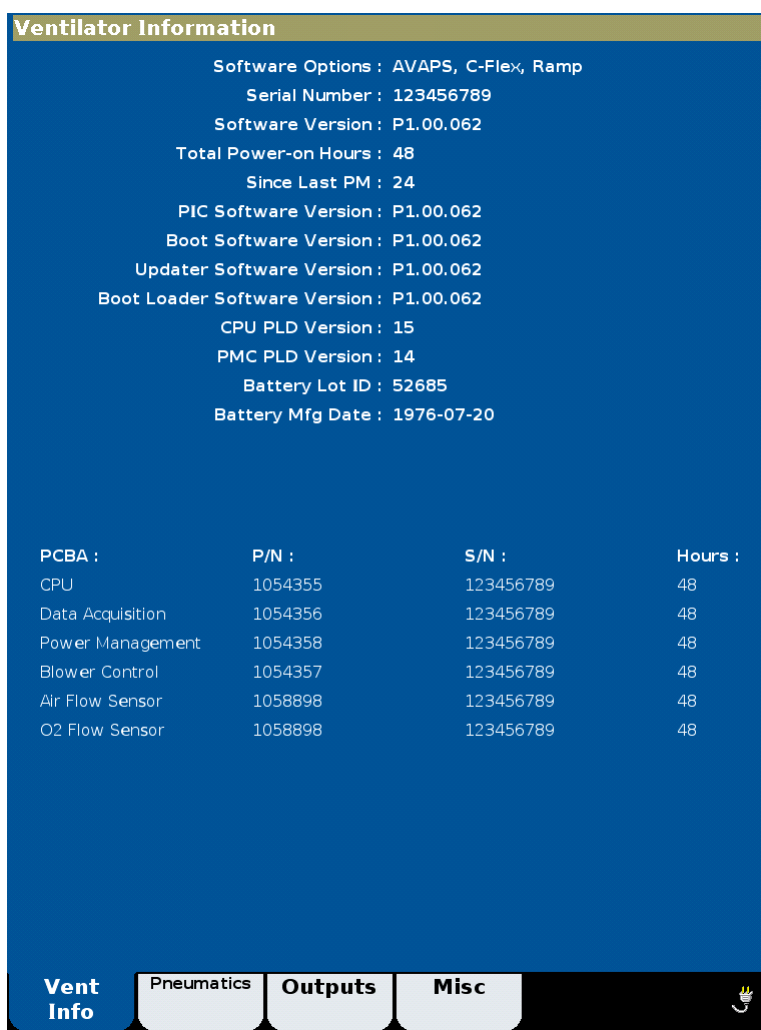

Figure 5-10: Ventilator Information Screen
2. The Ventilator Information screen displays software options, serial numbers, software versions, power-on hours, hours since last PM, and information on the internal battery and PCBAs (Figure 5-10).